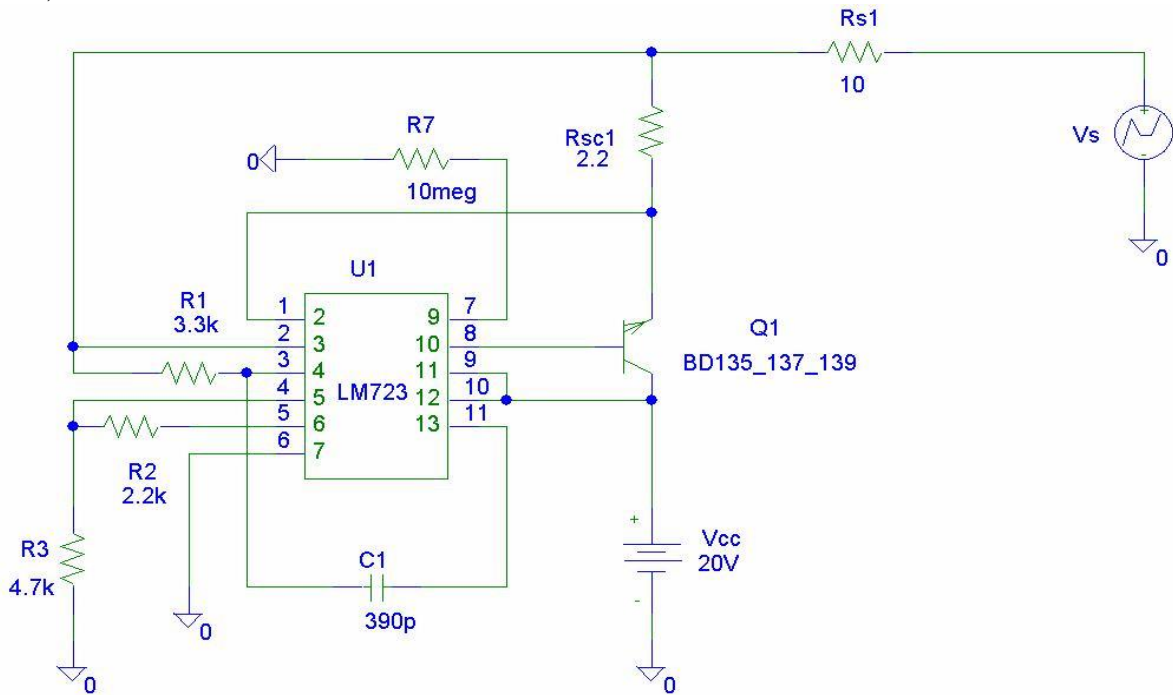

Fig.10. The circuit for the simulation of the output characteristic ($V_o - I_o$)
- Draw the schematic from Fig. 10, and put the V_s parameters: VPWL, with $T1=0$, $V1=0$, $T2=10$, $V2=4.8$. The simulation time should be set at 20s.